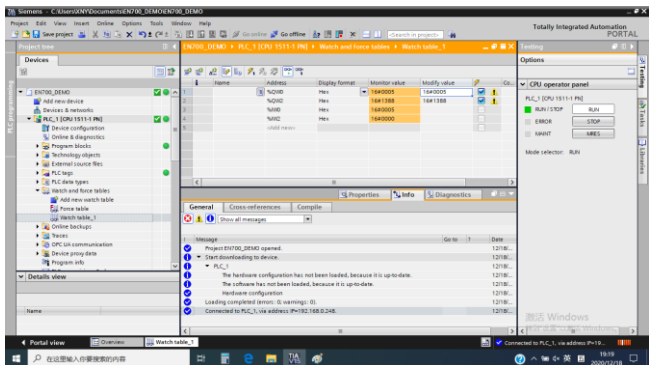

Figure 4-40
(19) Stop, as shown in Figure 4-40